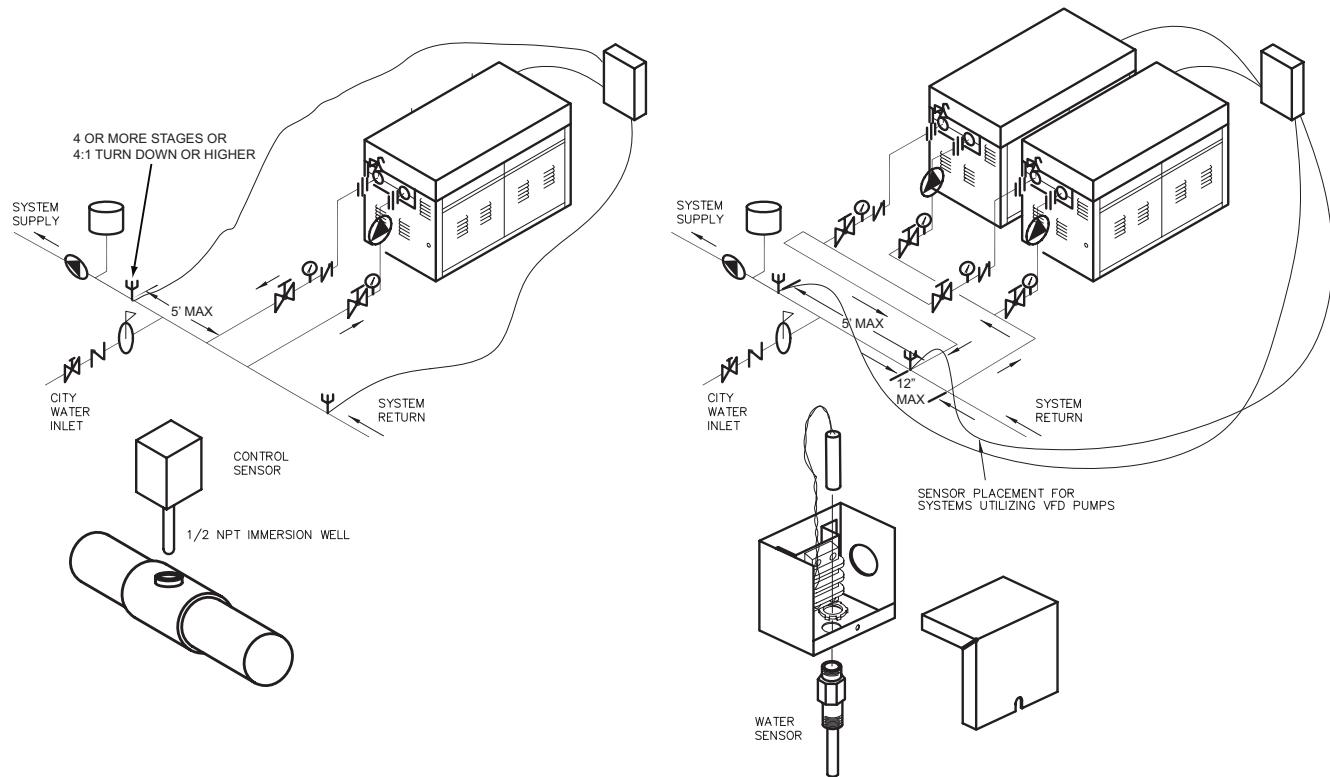

Fig. 6: Typical Water Sensor
- Locate the water sensor as shown in Fig. 6.